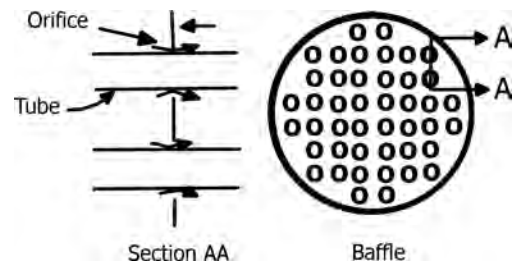

FIGURE 10.22 Orifice baffle.
- *Orifice Baffles*: In an orifice baffle, shell side fluid flows through the clearance between tube outside diameter and baffle hole diameter (Figure 10.22).